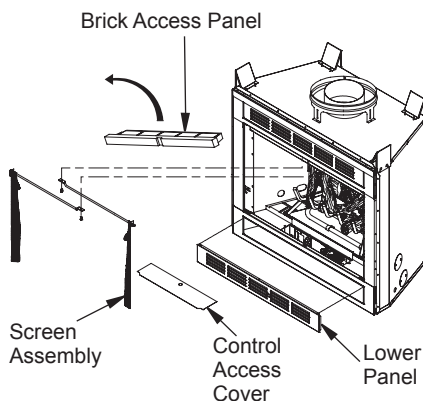

Figure 2 - Accessing Control Compartment
2. Remove 2 screws retaining the screen assemblies and slide screen rods out of mounting holes located behind facial opening (see Figure 2).
4. Remove front brick access panel by lifting and angling out of fireplace opening (see Figure 2).